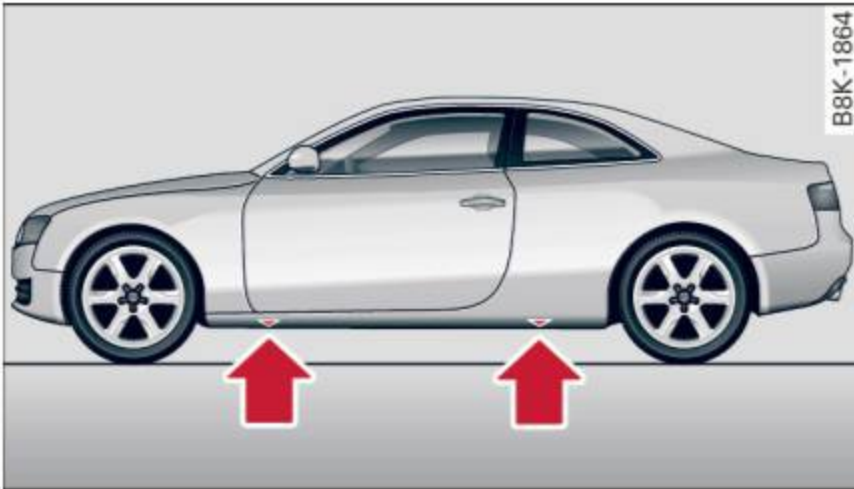

Fig. 177 Sill panels: markings
The location of the jack point is indicated by an indentation on the underside of the vehicle ⇒ fig. 177.
- ▶ Find the **marking** (imprint) on the sill that is nearest the wheel that will be changed ⇒ fig. 177. Behind the marking, there is a **lifting point** on the sill for the vehicle jack.
Position the vehicle jack **only** under the designated lifting points on the sill ⇒ fig. 177. There is exactly *one* location for each wheel. The jack must not be positioned at any other location ⇒ ⚠ ⇒ ⚠.